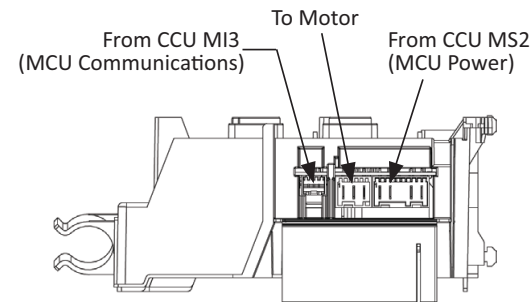

Figure 4 - Motor Control Unit (MCU)
6. Visually check that all connectors are inserted all the way into the MCU (see Figure 4).